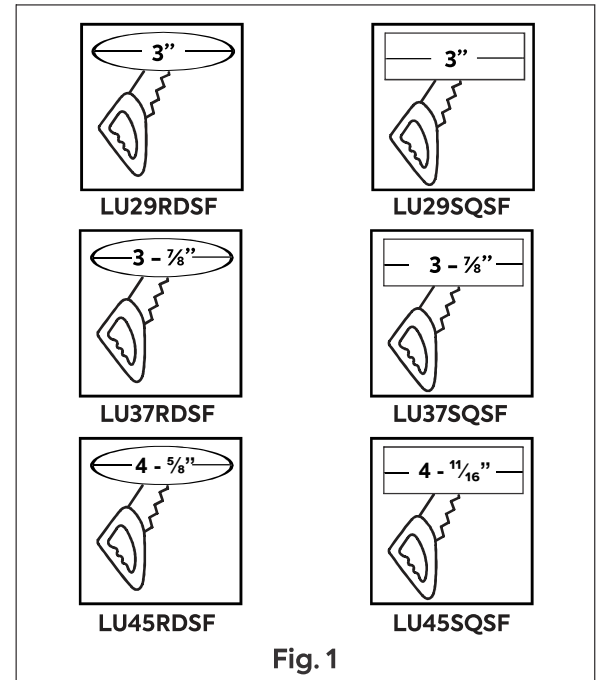

Fig. 1
- **REMODEL/RETROFIT INSTALLATION:** Cut a hole into the ceiling that corresponds with your spackle frame **Fig. 1**.